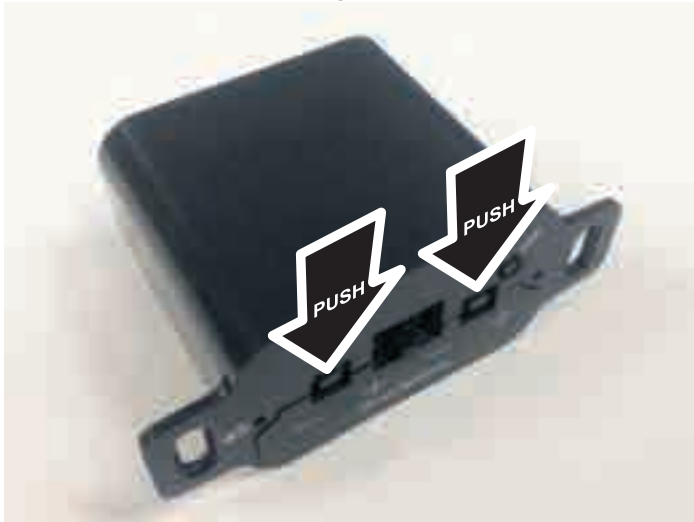
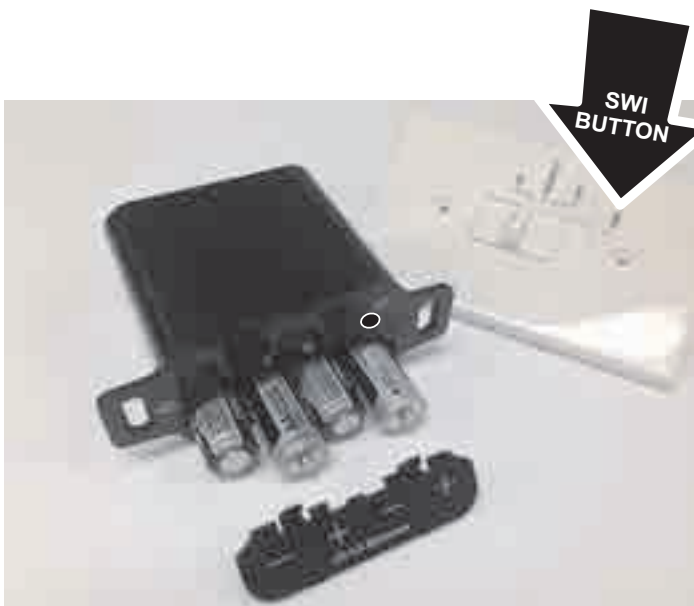

Figure 68
Figure 69
1. Remove the wall cover. Open the wall mounted battery back-up holder. **See Figure 68.** Install the four AA batteries and reinstall the cover. **See Figure 69.**
3. Set the wall remote slide switch to the REMOTE position. **See Figure 69.**
4. Press and release the SWI button on the wall control with a paper clip. The IFC module will beep three times to indicate the IFC module is ready to synchronize with the transmitter within ten seconds. **See Figure 69.**